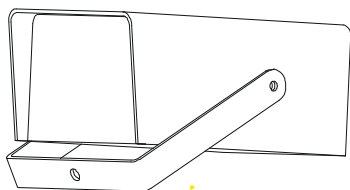

Figure 1
1. Adjust the handle of flash light to the lowest position (reference to figure 1).
2. Put this product onto a clean, stable and horizontal surface carefully (reference to figure 1), such as a table-top or cabinet-top, and connect to power.